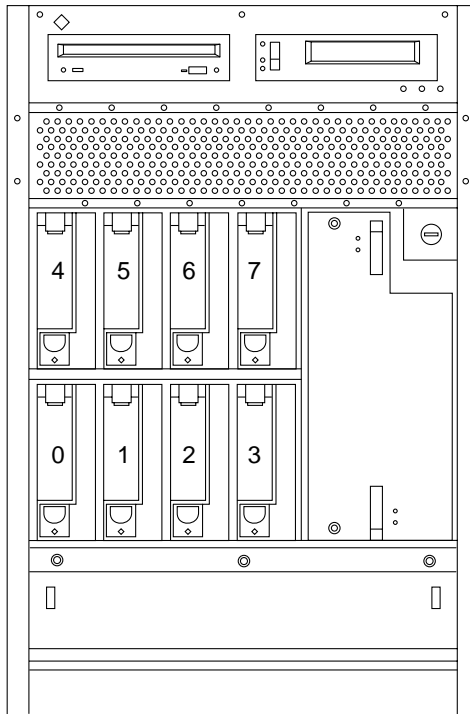

FIGURE 8-5 Disk Drive Bays
Note – Reserve drive bay 0 for the boot disk (FIGURE 8-5).
2. **Locate the drive to be replaced (FIGURE 8-5).**